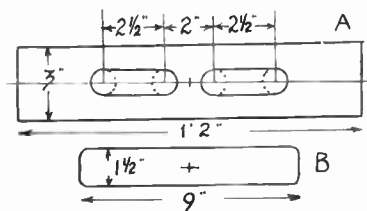

Fig. 2—The top batten and the side battens
This latter batten is shown enlarged at (A) in Fig. 2. Cut it from similar thickness wood to the board, run a centre line down, and at the middle make a small hole with a brad-
Trim up the side edges of the board, then cut two pieces of fretwood 12ins. long, and as wide as the combined thicknesses of the board and batten (A). These are glued and nailed to the edges of the board, at the upper portion, as in Fig. 1, and prevent the discs or halfpennies from jumping off the board, if struck too hard. Finally, to complete the work of construction, cut a strip of fretwood to pattern (B) in Fig. 2. Round off the side edges of it, and fix it over the top batten, with a round-headed brass nail through its centre. Here it acts as a cover to the cavities for chalk and discs,